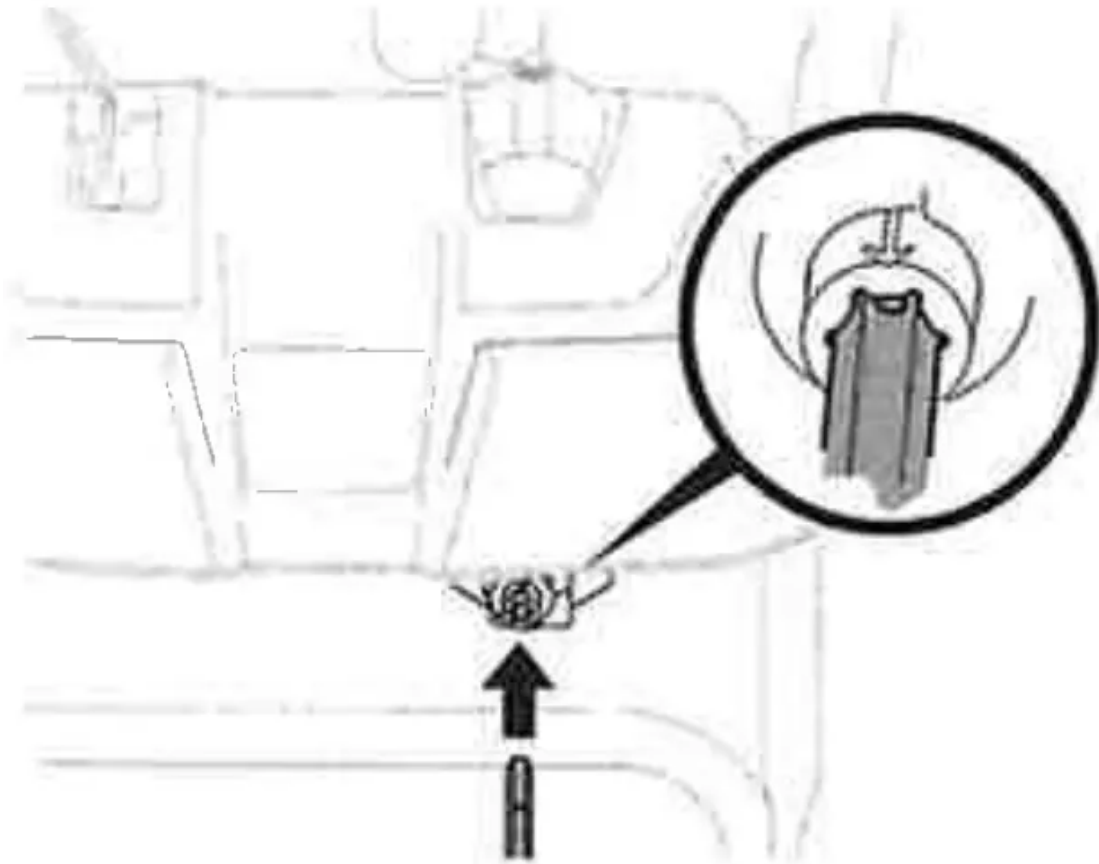

Figure 24
6. Insert chute control rod into pinion gear under handle panel. Make sure to line up hole in rod with arrow on pinion gear(Figure 24).